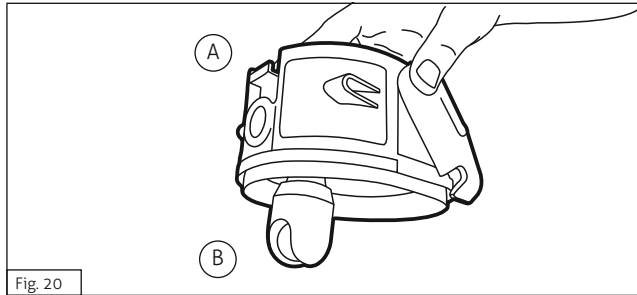

Fig. 20
2. Remove the sphere before performing the following cleaning instructions (fig. 20(B)).
6. Reinsert the sphere according to fig. 20.